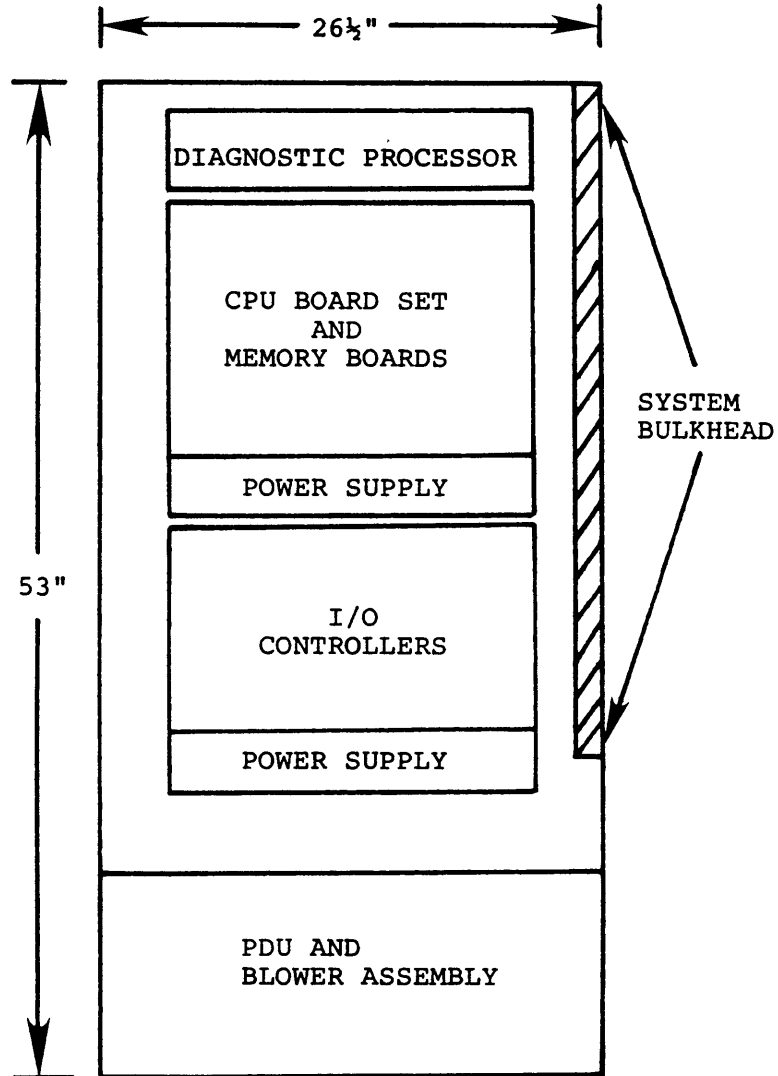
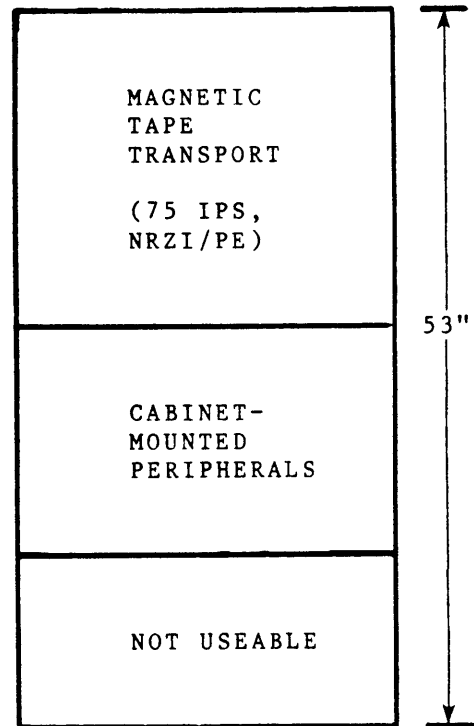

Figure 5-8. 9655 System Cabinet Space Allocation
Figure 5-10. 7651F Peripheral Cabinet with NRZI/PE Magnetic Tape Space Allocation
The 9655 utilizes a Product Number 7650F system cabinet (Figure 5-8) and a Product Number 7651F* and/or 7564S* peripheral cabinet(s), (Figures 5-10 and 5-11). The standard configuration for the 9655 is described below.
The 7651F Peripheral Cabinet is used to house 50 Series rack-mounted peripherals, and is being replaced by the 7564S Peripheral Cabinet. Mounting space in the peripheral cabinet(s) is allocated in the following priority order: magnetic tape transports, disk drives, and other optional devices that are installed in the upper half of the cabinet. All unused space, from the bottom of the installed peripheral(s) to the bottom of the cabinet, is enclosed using filler panels. Space allocation and configuration requirements for the major peripheral devices installed in the peripheral cabinet(s) are illustrated in Figures 5-10 and 5-11.
- Magnetic Tape Transport - The magnetic tape transport (MTT) is installed in the upper portion (upper 24-1/2") of the cabinet, as illustrated in Figure 5-10. Only one MTT may be installed per cabinet.
If a magnetic tape transport (MTT) is installed in the cabinet, one cabinet-mounted device may be installed in the 10-1/2 inch space below the MTT, as shown in Figure 5-10.